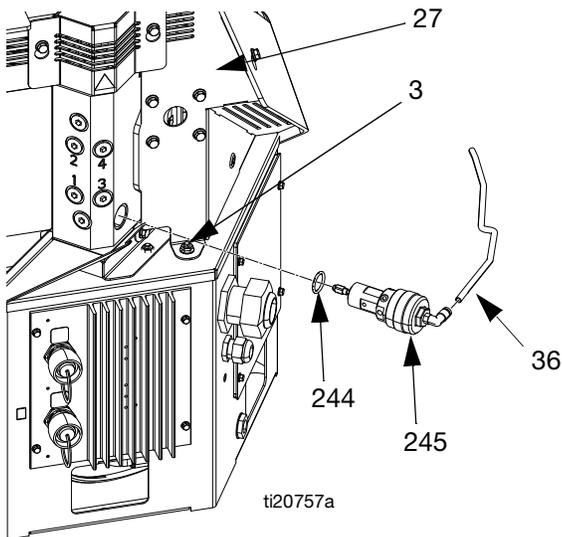

FIG. 43
4. Remove air tube (36) from relief valve. Pull the air tube through the metal shroud (27). See FIG. 43, page 72.
5. Use 7/16 in. socket to remove nuts (3) then remove metal shroud (27).
6. Disconnect the wire connectors from the over-temperature switch (251).
7. Remove the screws (255) securing the over-temperature switch (251) to the melter assembly (5), then remove the switch.
4. Remove the air tube (36) from the relief valve (245). Pull the air tube through the metal shroud (27). See FIG. 43.
5. Remove nuts (3) then remove shroud (27).
6. Use crescent wrench to remove melter fluid pressure relief valve (245). See FIG. 43.
7. Use an o-ring pick to remove o-ring (244).
8. Install o-ring (244) into manifold.
9. Thread new fluid pressure relief valve (245) into manifold. See FIG. 43. Once hand-tight, use crescent wrench to tighten.
10. Use nuts (3) to install metal shroud.